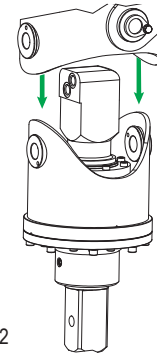

Figure 2
5. Slide the drive unit out of the gimbal assembly and lie it on it's side with the bung hole facing down (Figure 2).
2. Clean the area where the shaft seal sits (Figure 2). It is recommended to clean the surface area with an alcohol-based cleaner.